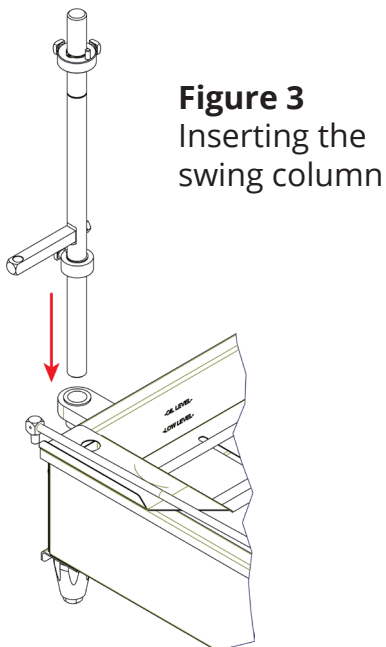

Figure 3
4. Insert the swing column into the swing column-mounting bracket. See Figure 3.